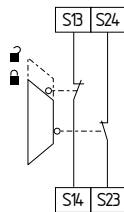

Fig. 6
**Dual-channel guard door monitoring circuit with interlocking device to EN 1088 (see Fig. 6)**